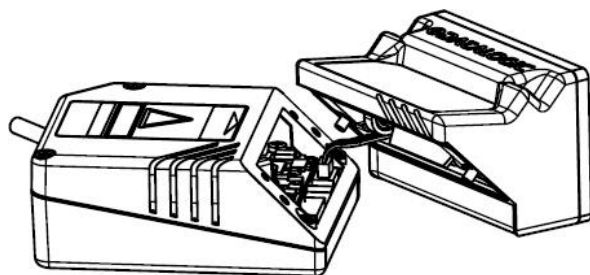

Figure 33 – OM2000N Electrical Connection
The OM2000N is directly powered from the scanner through a connector which is accessible after removing the scanning window (see Figure 33). It therefore operates exclusively at low power, between 10 and 30 VDC.
- 3) Bring the OM2000N close to the scanner and insert the cable into the power connector of the scanner (see Figure 33).